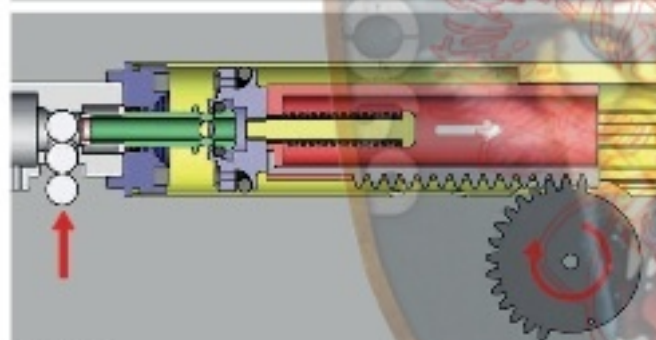

Figure 2
**Nozzle slide back and feeding (Figure 2)**